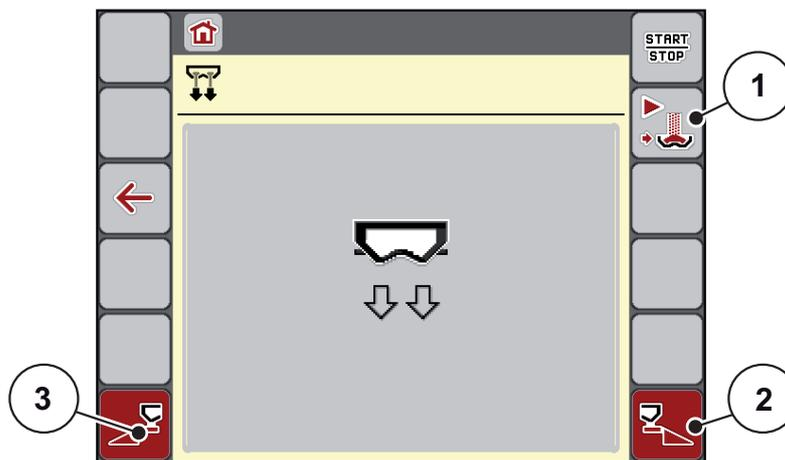

Figure 4.19: Fast emptying menu
- ▷ The display shows the selected section as a symbol ([Figure 4.19, \[2\]](#)).